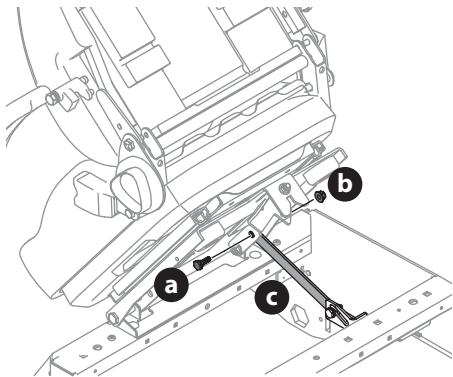

Figure 9
3. Remove the shoulder screw (a) and flange lock nut (b) from manual bag and install the seat lockout bracket (c) (Figure 9).